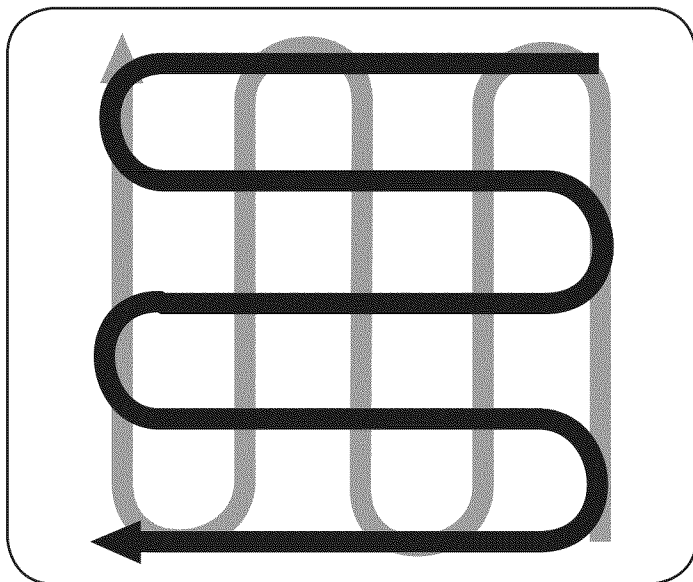

Figure 20
- When finished in one direction, make a second pass at a right angle. See Figure 20. Overlap each pass for the best results (in very hard ground, it may take three or four passes to thoroughly pulverize the soil.)